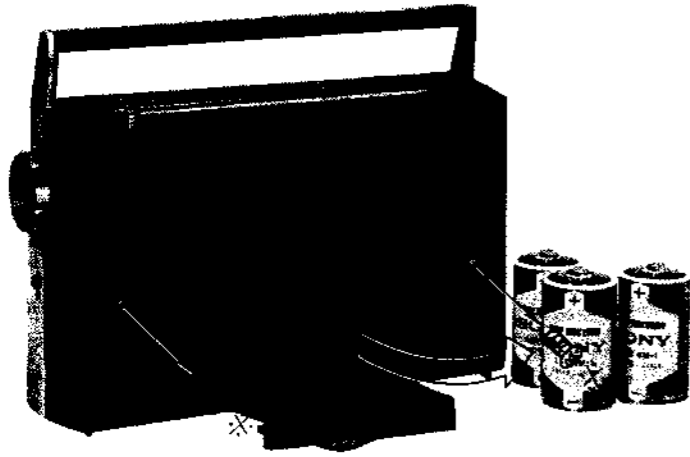

Fig. 3 Rear cabinet removal
2. Remove rear cabinet by removing two holding screws marked with * in Fig. 3.